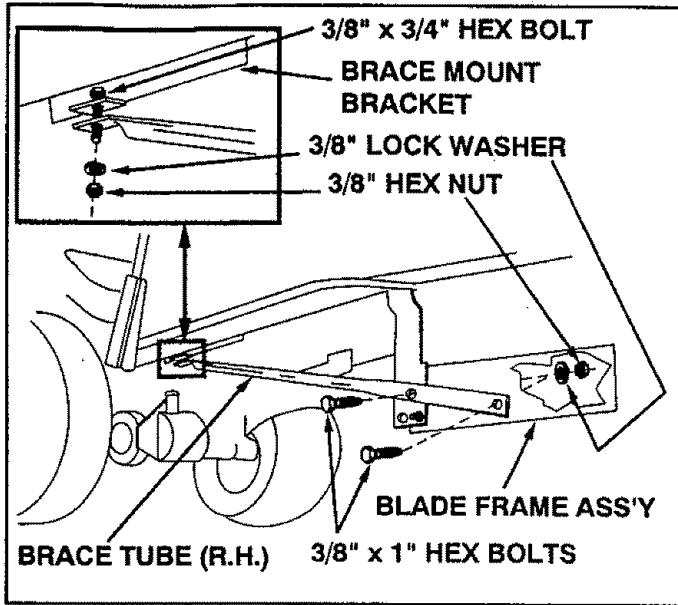

FIGURE 14
- Attach the brace tubes (L.H. and R.H.) to the outside of the blade frame ass'y using two 3/8" x 1" hex bolts, lock washers and lock nuts on each side. See figure 14. Attach the other end to the brace mount bracket (assembled in step 7) using the holes shown in figure 14. Secure with a 3/8" x 3/4" hex bolt, lock washer, and lock nut on each side.